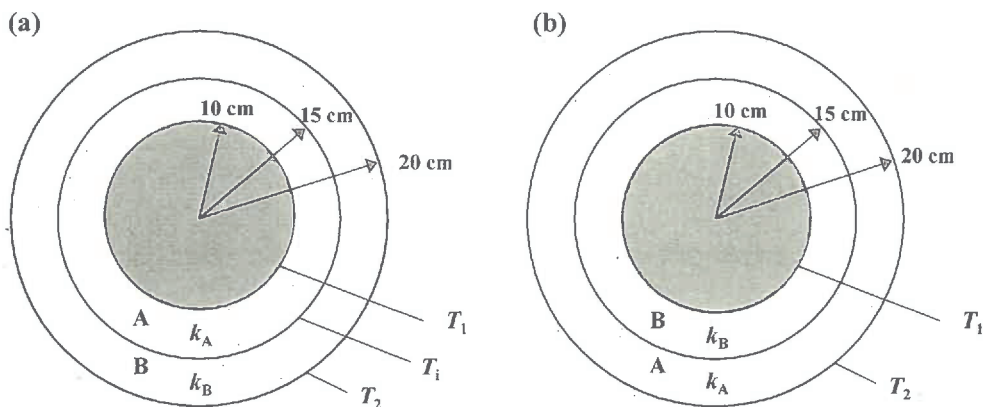

Figure 1
図1 (a), (b)に示すように, 熱伝導度 k_A および k_B の2種類の保温材を周りに施工した十分に長い長さ L の円筒がある。定常状態における半径方向の一次元熱伝導について以下の問いに答えよ。ただし, $k_A < k_B$ とし, 図1 (a), (b)における円筒表面温度 T_1 と保温材の最外周部の温度 T_2 はそれぞれ同じとする ($T_1 > T_2$)。
- (1) 図1 (a)の場合において, 保温材 A と保温材 B の間の接触面に隙間はなく, その温度を T_i とする。保温材 A を通過する伝熱量 Q_A を T_i, T_1, k_A, L を用いて示せ。
- (2) (1)と同じ条件で, 図1 (a)の保温材 B を通過する伝熱量 Q_B を T_i, T_2, k_B, L を用いて示せ。
- (3) 図1 (a)の場合において, 保温材2枚を通過する伝熱量 Q_a を T_1, T_2, k_A, k_B, L を用いて示せ。
- (4) 図1 (a)と (b)の場合において, 保温性が高いのはどちらか。式を用いて説明せよ。
As shown in Figure 1 (a) and (b), there is a cylinder of sufficiently long length L with two types of insulations with thermal conductivity k_A and k_B constructed around it. Answer the following questions for one-dimensional heat conduction in the radial direction under steady state conditions. Assume that $k_A < k_B$, and that the surface temperature T_1 of the cylinder and the temperature T_2 at the outermost circumference of the insulation in Figure 1(a) and (b) are the same, respectively ($T_1 > T_2$).
- (1) In Figure 1 (a), there is no gap in the contact surface between heat insulator A and B. Let T_i be the temperature between them. Show the quantity of heat transfer Q_A passing through heat insulator A using T_i, T_1, k_A and L .
- (2) Under the same conditions as (1), show the quantity of heat transfer Q_B passing through heat insulator B in Figure 1 (a) using T_i, T_2, k_B , and L .
- (3) In Figure 1 (a), show the quantity of heat transfer Q_a passing through the two heat insulators using T_1, T_2, k_A, k_B , and L .
- (4) Comparing Figure 1(a) and (b), which has better heat insulation? Explain with equations.